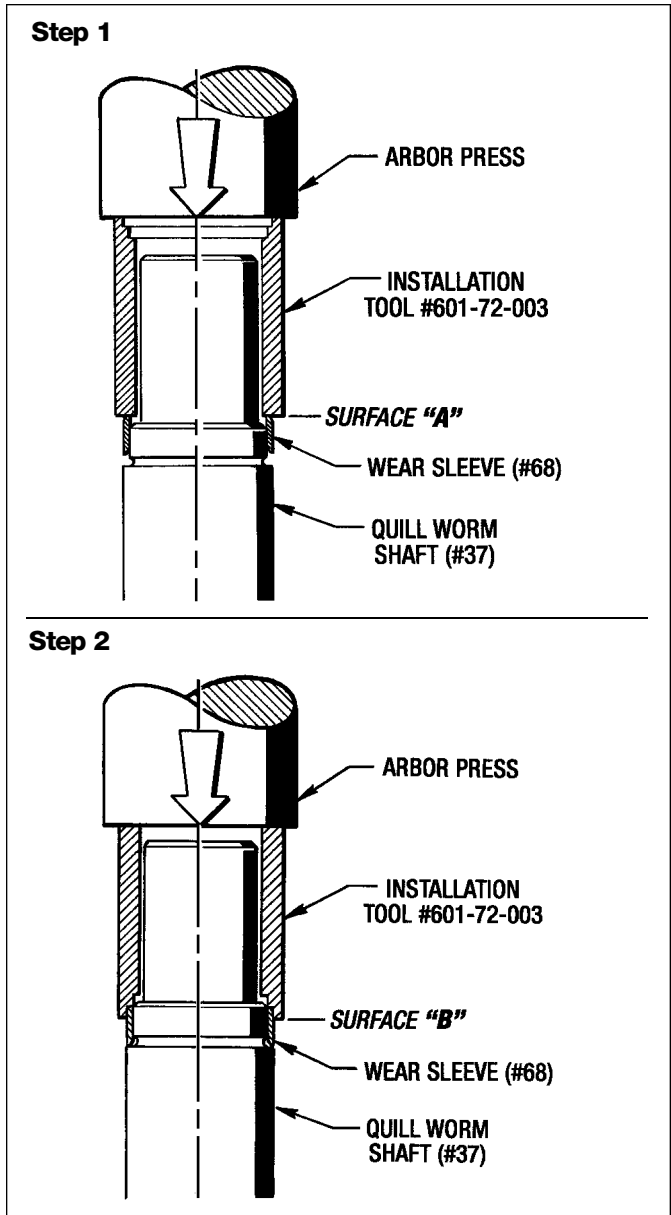

Figure 7.9 - Installing Wear Sleeve (#68) on Quill Worm Shaft
- Place the Worm Shaft in an arbor press as shown in Figure 7.9. **Step 1** - Press the Wear Sleeve (#68) on to the Worm Shaft with **Surface "A"** of the Installation Tool. **Step 2** - Turn the Installation Tool over and with **Surface "B"** finish pressing the Wear Sleeve (#68) on the Worm Shaft until it bottoms out on the shaft shoulder.